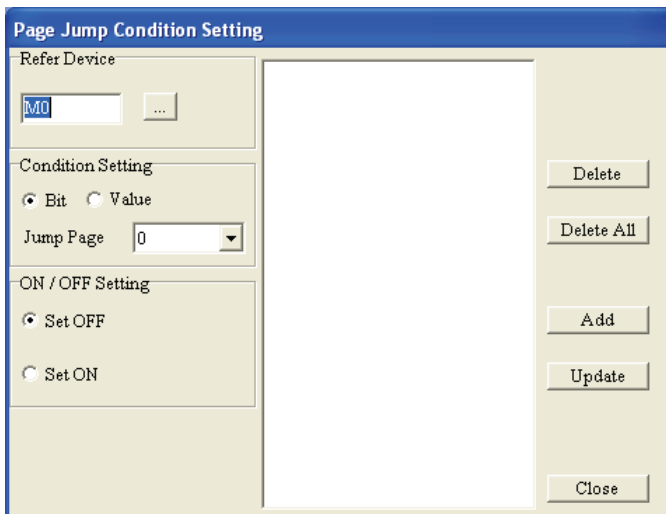
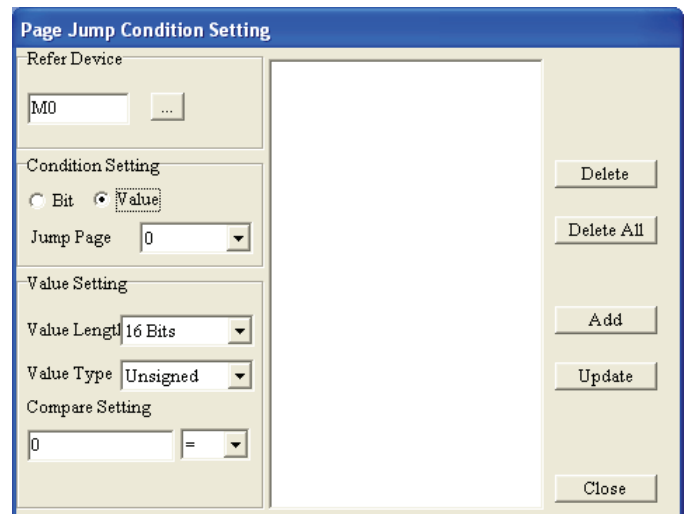

Figure 1-120
Figure 1-121
Step 2. Then, Page Jump Condition Setting tab will display on the screen. The users can select the Refer Device as Bit (Figure 1-120) or Value (Figure 1-121) device in Condition Setting option. Max. 20 pages could be set.